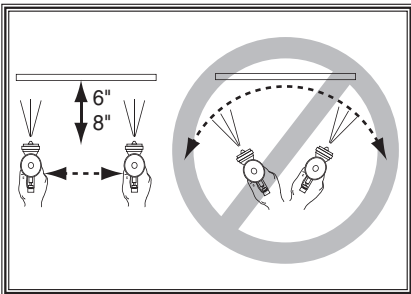

Figure 8. Spray technique.
9. Keep the gun tip perpendicular, parallel, and 6-8" from the work (as shown in **Figure 8**) when spraying. Do not allow your wrist to bend. This will cause the gun to arc across the surface and distribute the material unevenly, possibly creating sags and dry spots.